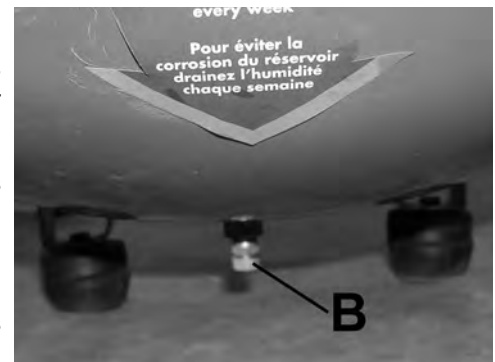

FIGURE 4
DRAIN VALVE (B) FIG. 4. The drain valve is located at the bottom center of the air tank and is used to drain condensation from the tank at the end of each use.
- C. Turn the drain valve (B) Fig. 4, opening it fully, to prevent air pressure build-up in the tank.
10. Drain water from air tank. Turn drain valve (B) Fig. 4, counterclockwise to open.
5. Drain water from air tank. Turn drain valve (B) Fig. 4, counterclockwise, to open.